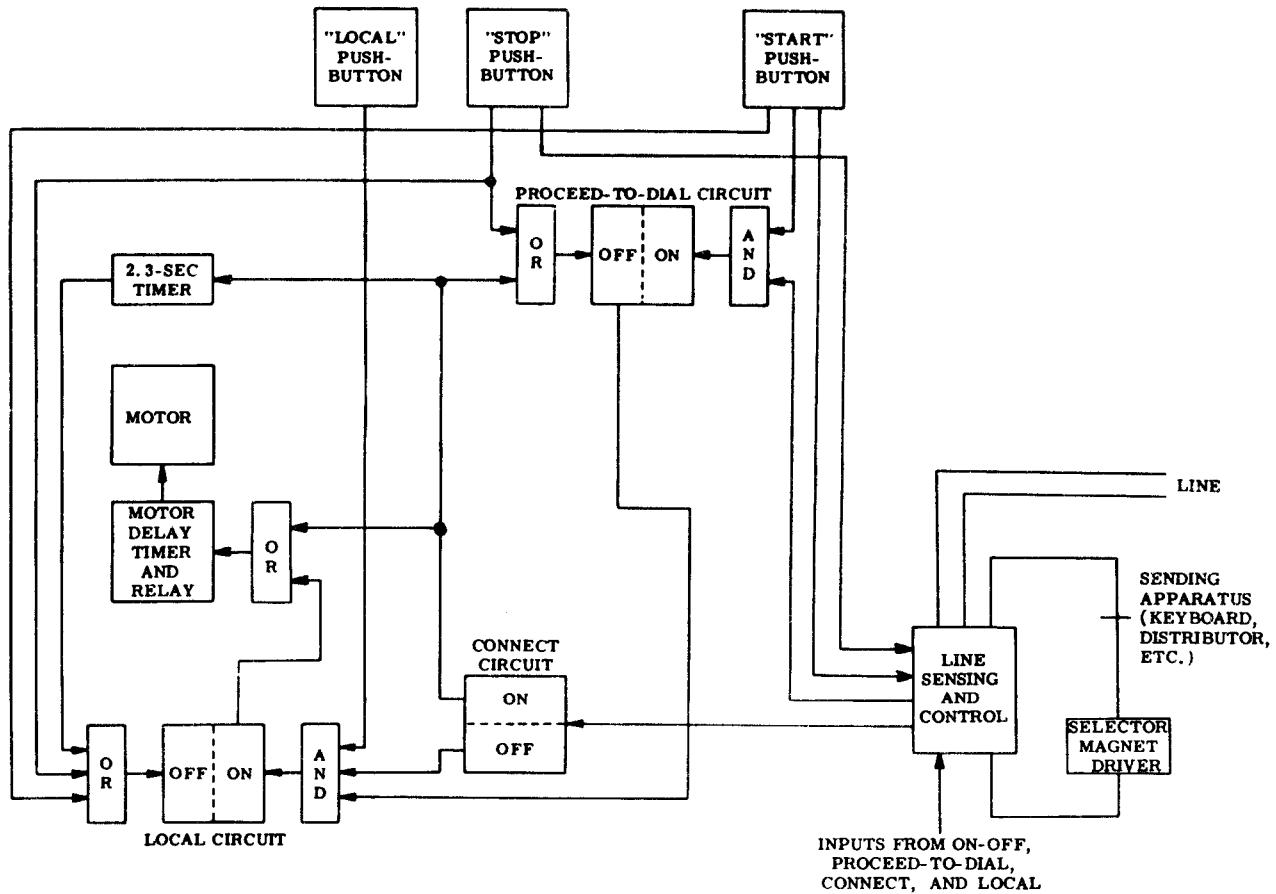

Figure 7 - Circuit Interconnections
**3.18** The block diagram for the circuit interconnections is shown in Figure 7.